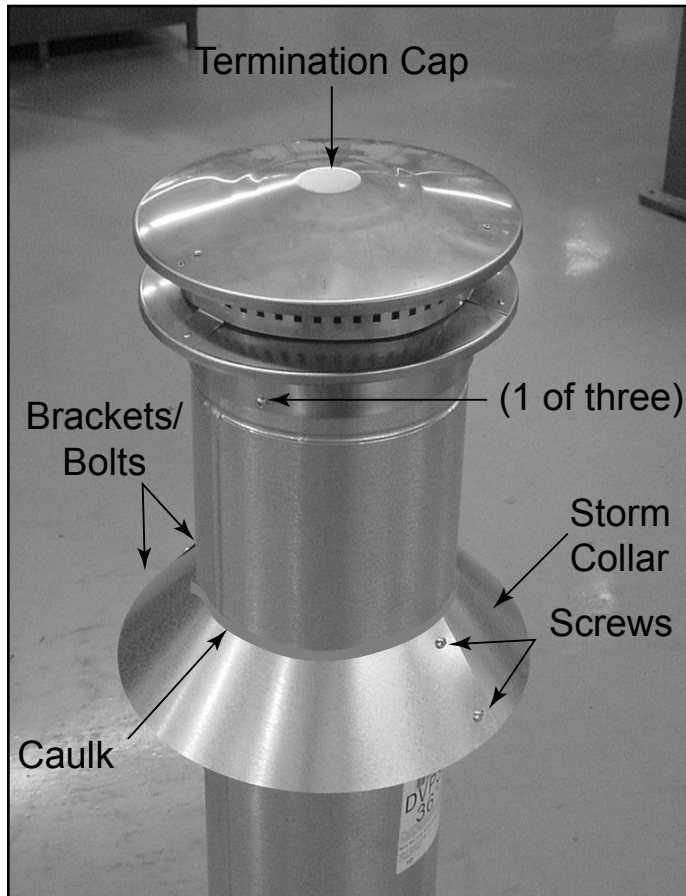

Figure 10.15
- Secure the cap by driving three self-tapping screws (supplied) through the pilot holes in the outer collar of the cap into the outer flue of the pipe (see Figure 10.15).